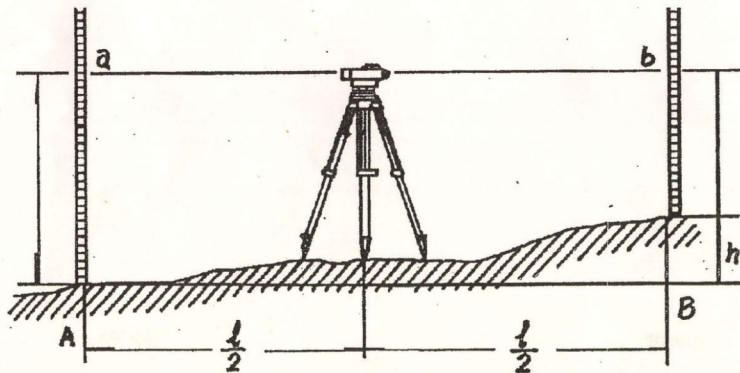

Fig.6
- 1) Set up the instrument at a point approximately halfway between points A and B. (See Fig. 6)